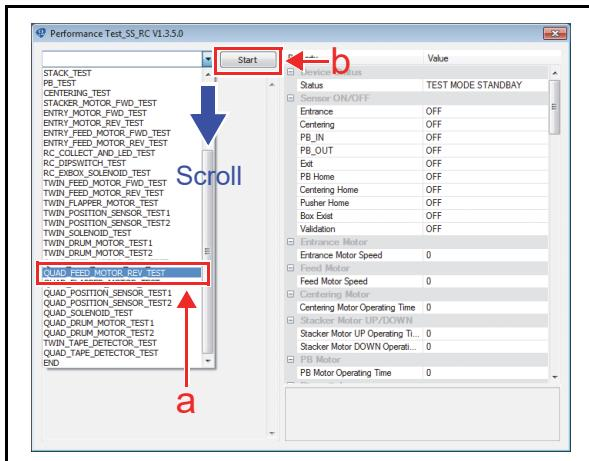

**Figure 6-54** Feed Motor Speed Forward Rotation Test (RQ Transport) 2
5. The measured speed will appear in the “RC-Feed Motor (RC-Quad)” area (Figure 6-54 a) on the Screen.
7. Click the “Stop”  Screen Button (Figure 6-54 b) to end the test.